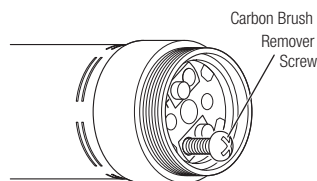

Fig. 12
- 3) Screw the Carbon Brush Remover Screw (included with replacement carbon brushes) into the screw hole two or three times. Then remove the carbon brush by pulling the remover screw (Fig. 12).